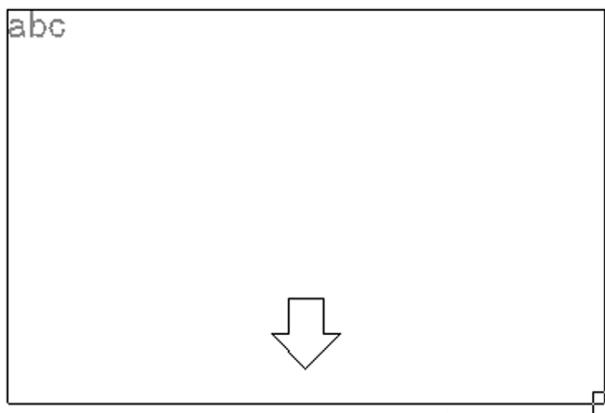

FIGURE 4.3 Mtext field.
Step 2. Left-click anywhere on the screen, noticing the abc next to the crosshairs. A rectangle with an arrow appears, as shown in Fig. 4.3. Continue to move your mouse down and across to the right, making the rectangle bigger. This is your text field; make it as large or small as you need it to be to hold all the text. As you do this,